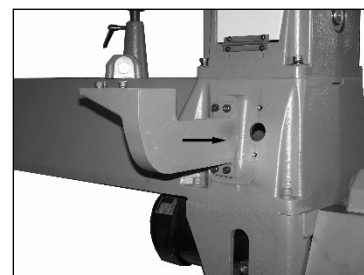

Figure 8
4. Mount the comparator/guard support bracket to the back of the machine as shown in Figure 8. Use the supplied 6mm Allen head bolts to securely mount the bracket to the machine.